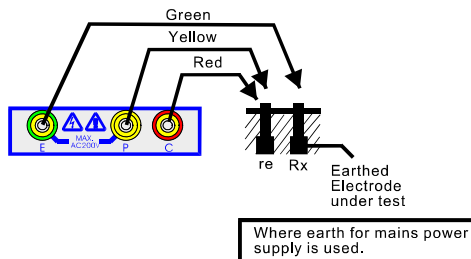

Figure 2.-
- (1) This method is recommended where an earth resistance higher than  $10\Omega$  is measured or where it is not possible to drive auxiliary earth spikes. An approximated value of the earth resistance can be obtained by means of using the double wiring method shown in the figure 2).
- (2) Rotary to function switch to **EARTH VOLTAGE** position and press TEST ON/OFF to test. Make certain that earth voltage is less than 10 V.
- (3) First rotary the function switch to **200Ω** position and press to test, read earth resistance. If the display shows "1" (MSD), switch to **2000Ω** position and read earth resistance.
- (4) The reading obtained (Rx) is an approximate earth resistance value. In order to make this measurement, terminals P (yellow) and C (red) must be short-circuited before.